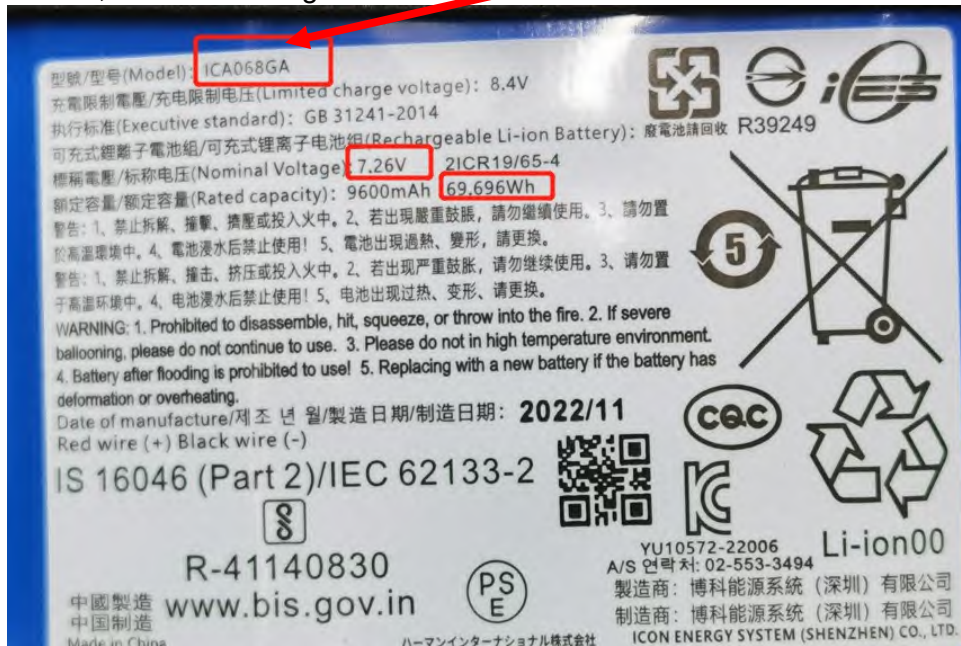

Fig. 5
- 1) Battery w/SDI cell +TI gauge IC (PN 41700211), Model=**ICA068GA**, Nominal Voltage=7.26V, rated capacity=69.696Wh, as shown in Fig. 5